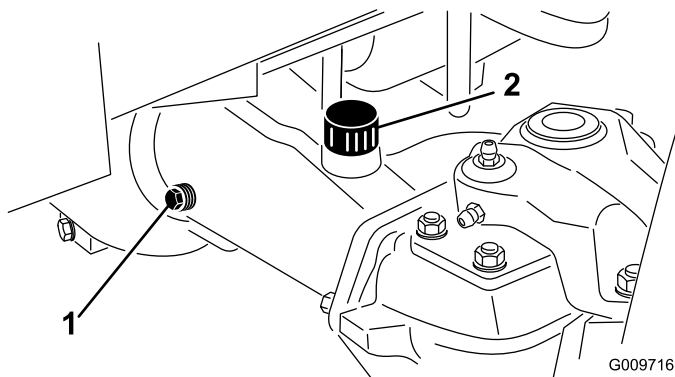

Figure 71
- Remove a check plug from one end of the axle (Figure 71) and make sure that the lubricant is up to the bottom of the hole. If the level is low, remove the fill plug (Figure 71) and add enough lubricant to bring the level up to the bottom of the check plug holes.